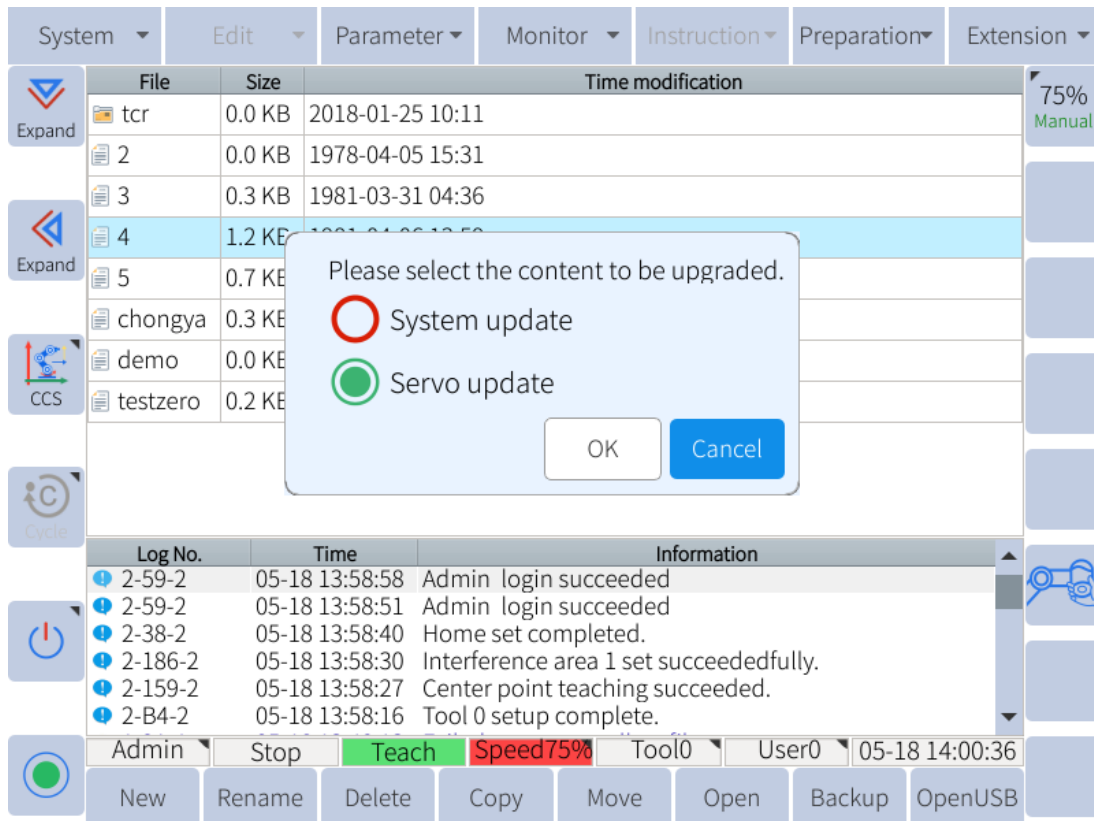

Figure 13-2 : Selecting the content that needs to be upgraded
4. After pressing “OK” button, the system will give the message “Please select the content that needs to be upgraded”. Then select “Upgrade Firmware”, as shown in **Figure 13-2** .